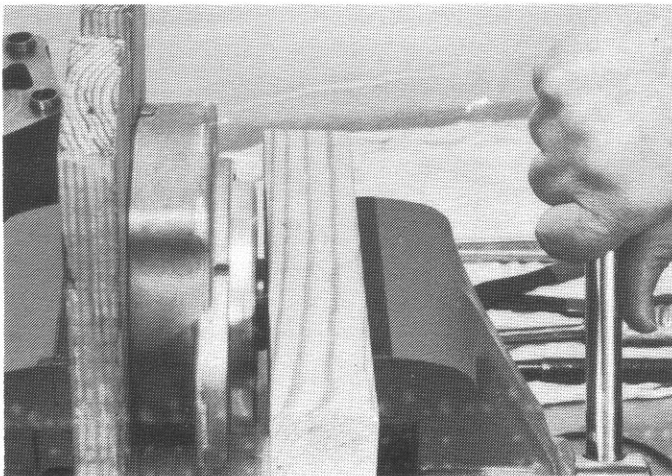

Fig. 6
11. Center the seal over the seal bore with metal face of the seal facing movable jaw. Place clean block of wood against seal and tighten the vise slowly until wood block is against the flange. Make sure the seal is started and pressed straight into the bore. (Fig. 6)